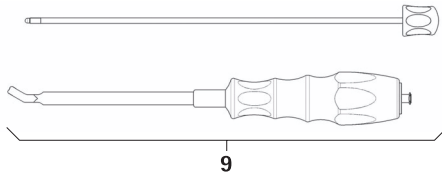

Fig. 5
- ▶ Disassemble rod insertion instrument **9**, see Fig. 5: Unscrew the inner part.